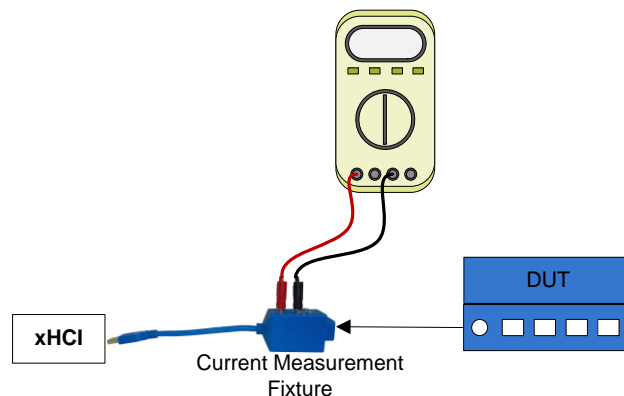

Figure 6-21: Compound Device Current Measurement Topology
- Connect a SSP Current Measurement Fixture between DUT and SSP host as shown in Figure 6-21.